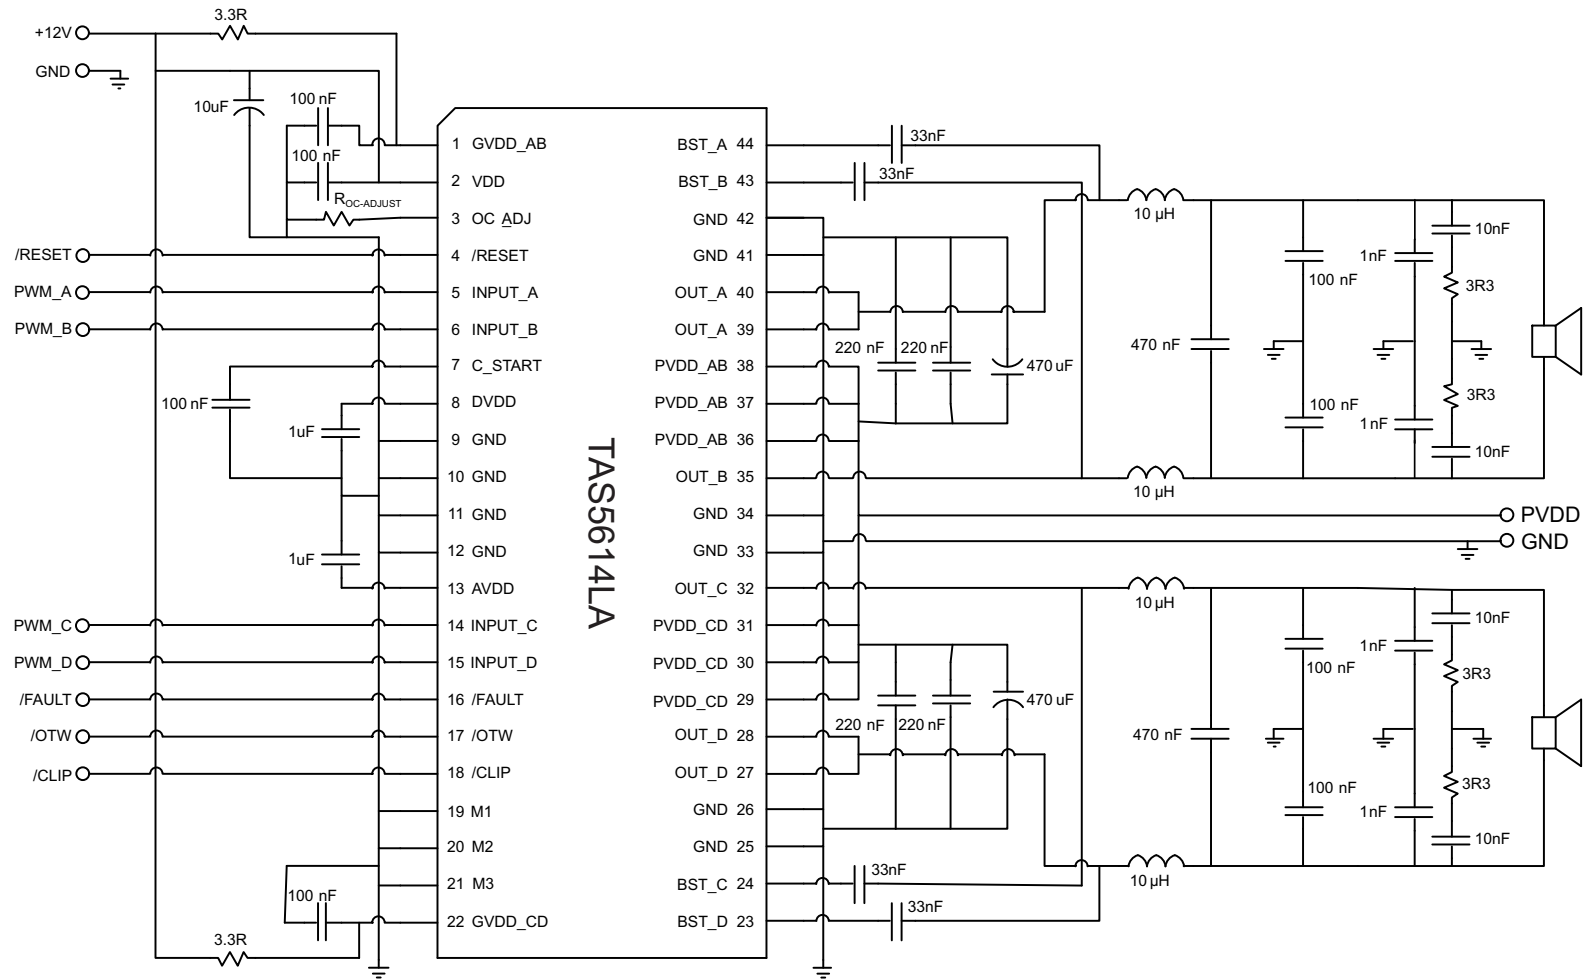

图 16. Typical Differential (2N) BTL Application With AD Modulation Filters
See 图 16 for application schematic. In this application, differential PWM inputs are used with AD modulation from the PWM modulator (TAS5558). AD modulation scheme is defined as PWM(+) is opposite polarity from PWM(-).
- Pins 27, 28, 32, 35, 39, 40 - Output pins from half-bridges A, B, C, and D. Connect appropriate bootstrap capacitors and differential LC filter as shown in 图 16.
- Pins 29, 30, 31, 36, 37, 38 - Power supply pins to half-bridges A, B, C, and D. A and B form a full-bridge and C and D form another full-bridge. A 470-μF bulk capacitor is recommended for each full-bridge power pins. Two 0.22-μF decoupling capacitors are placed on each full-bridge power pins. See 图 16 for details.